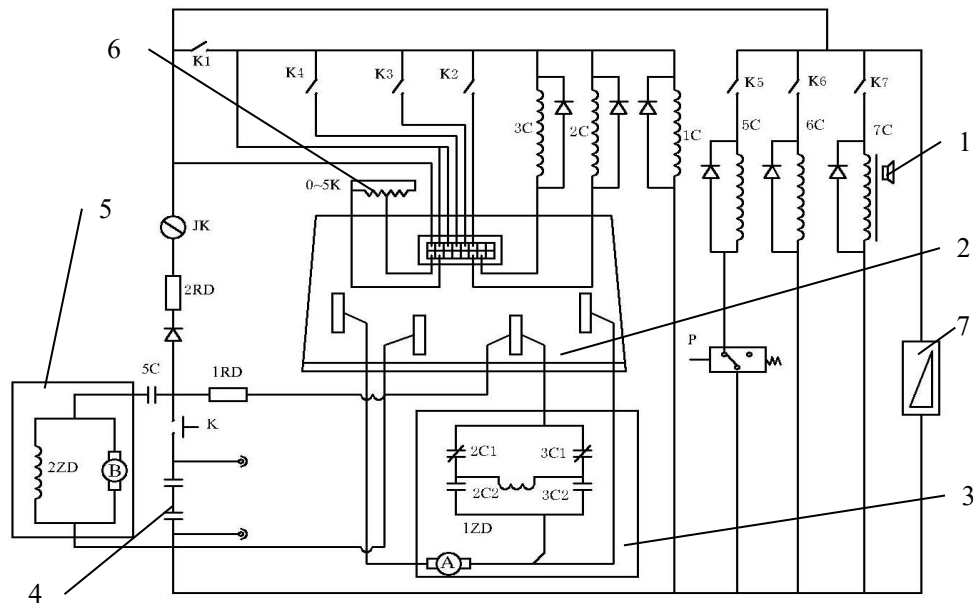

Figure 7 (only for reference)
4.1.3 The stacker can also be mounted with a pair of handrails, You can turn to open the handrails by press down them. (see figure 7.)